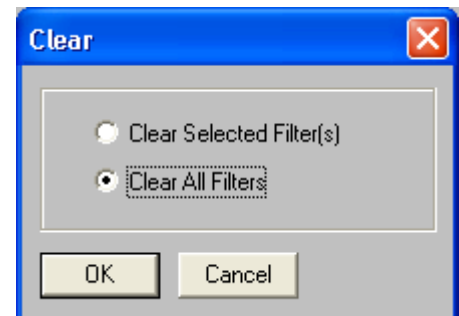

FIGURE 7-20: “Clear” Dialog
2. The “Clear” dialog appears, as pictured to the right in Figure 7-20.